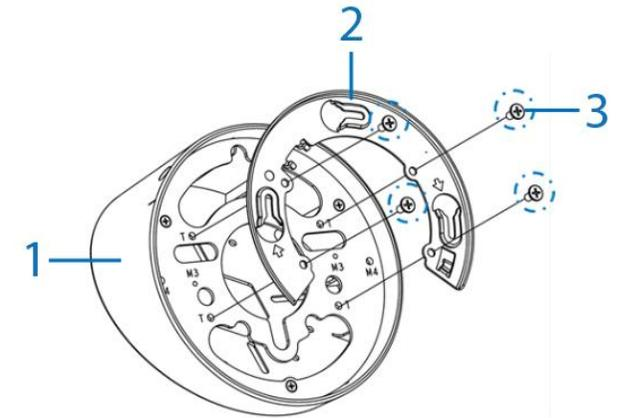

Figure 4
7. Hold the flat bracket (2) (Figure 4) that comes in the box with the camera up to the tilt mount accessory (1) (Figure 4) and align the four holes on the flat bracket with the four holes labelled 'T' on the tilt mount.
8. Insert the four M3 screws (3) (Figure 4) into the four holes and use a screwdriver to securely attach the flat bracket to the tilt mount.